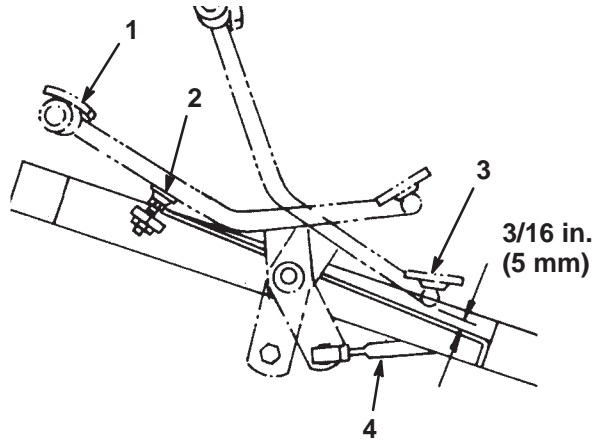

Figure 51
1. Press the traction pedal fully forward until the No. 5 section valve spool is completely pulled out. The pedal should contact the pedal stop (Fig. 51).
2. Check the distance between the bottom of the pedal and footrest as shown in Figure 51. The distance should be approximately 3/16 in. (5 mm). If the distance is greater or less than 3/16 in. (5 mm), an adjustment to the traction control rod is required. Proceed as follows:
- A. Remove the jam nut and ball joint securing the control rod (Fig. 51) to the traction shaft pivot.